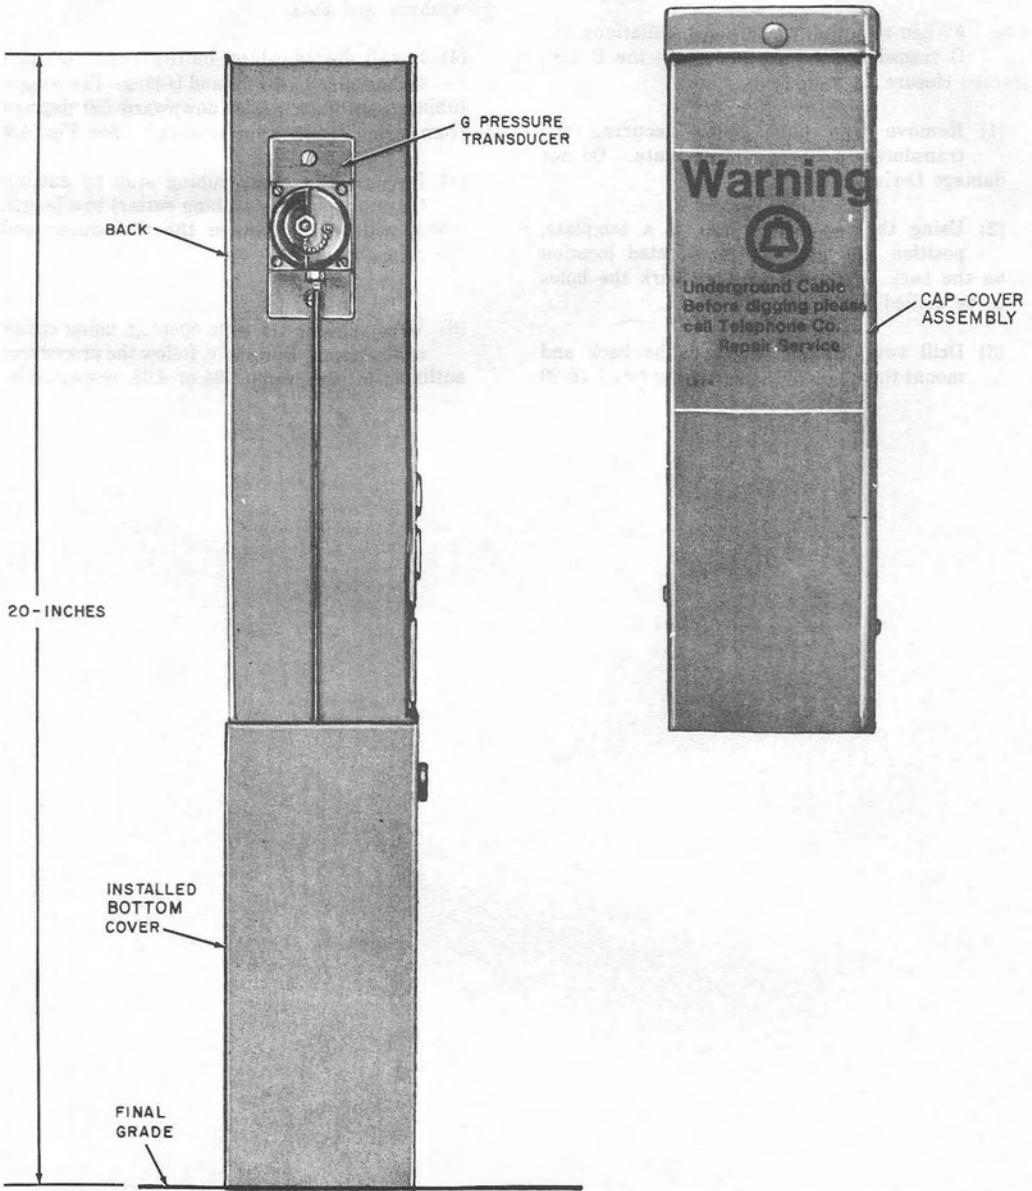

Fig. 4—B Wire Storage Closure With G Pressure Transducer Installed
- (1) Remove the four screws securing the transducer to the mounting plate. Do not damage O-ring.
- (2) Using the mounting plate as a template, position the plate at the selected location on the back of the closure and mark the holes to be drilled (Fig. 4).
- (3) Drill two 3/8-inch holes in the back and mount the plate to the back using two 5/16-20
- (4) Install the transducer on the mounting plate using same hardware and O-ring. The copper tubing stub must extend downward (90 degrees from original mounting position). See Fig. 4.
- (5) Prepare the copper tubing stub by cutting the tubing (using a tubing cutter) to a length which will reach between the transducer and the splice opening.
- (6) When closing the cable opening, using either splice case or lead sleeve, follow the procedures outlined in paragraphs 4.04 or 4.05, respectively.